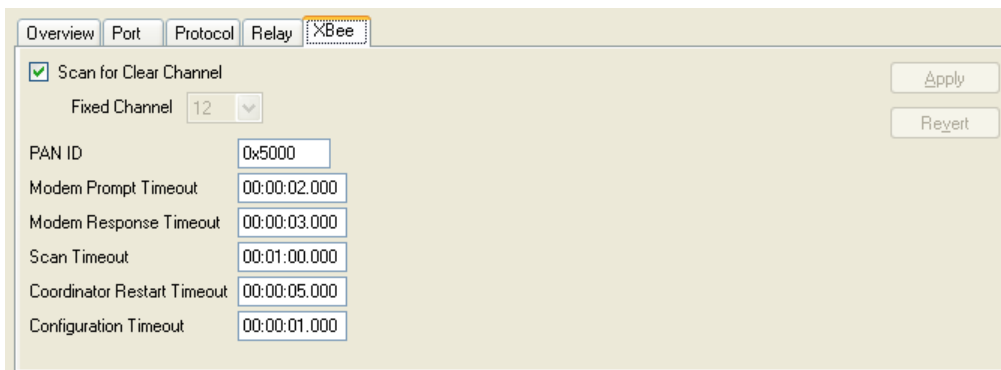

Figure 4-12: Xbee Parameter Selection Tab
- 2) Click the **XBee** tab (as shown in Figure 4-12) and verify that the PAN ID is correct.